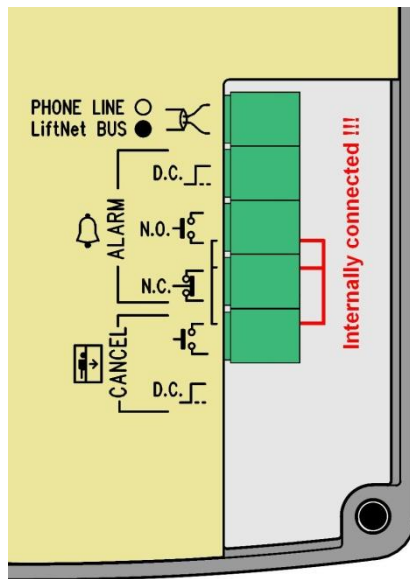

Figure 2.13 Connectors of Lift Cabin Audio Unit – Compact (Later HW)
- Refer to the rear cover for internally connected terminals – see Fig. 2.13.